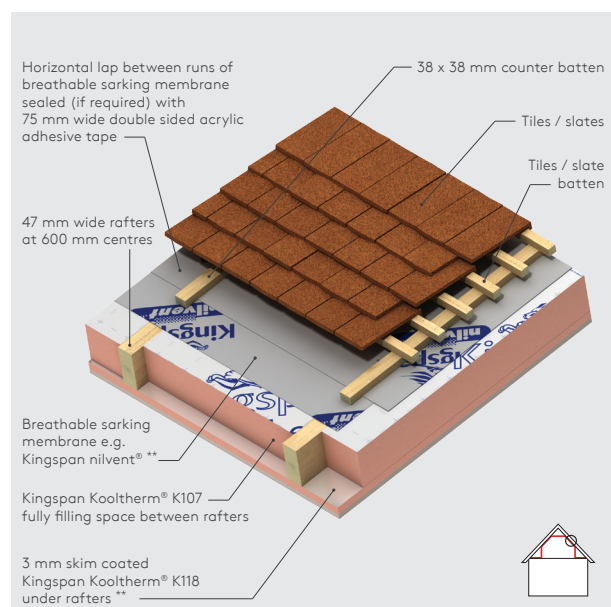

Figure 1a
NB When calculating U-values to BS EN ISO 6946: 2017, the type of mechanical fixing used may change the thickness of insulation required. The effect of fixings for Kingspan Kooltherm® K118 Insulated Plasterboard in the U-value calculations for Figures 1a, 1b, 1c, 1d, 2a, 2b, 4a & 4c is insignificant as the insulation layer penetrated is not the main insulation layer. The U-value calculations for Figures 3a & 3b assume that over rafter layers of insulation are fixed using stainless steel fixings with a cross sectional area 7.9 mm2, with 3.7 fasteners per m2 (insulant thickness 0-40 mm), 6.2 per m2 (insulant thickness 41-60 mm), 8.3 per m2 (insulant thickness 61-80 mm) and 10.0 per m2 (insulant thickness 81-100 mm). The U-value calculations for Figures 3a & 3b also assume that over rafter layers of insulation are fixed using stainless steel fixings with a cross sectional area 9.1 mm2, with 11.1 fasteners per m2 (insulant thickness 101-125 mm). Please contact the Kingspan Insulation Technical Service Department (see rear cover for details) for project calculations.
- 1 In Figures 1a & 3a the breathable sarking membrane can be placed over the counter-battens, draped to provide for drainage and overlain with tile / slate battens. This will yield a marginally better U-value but it will be more difficult to seal the breathable sarking membrane effectively.